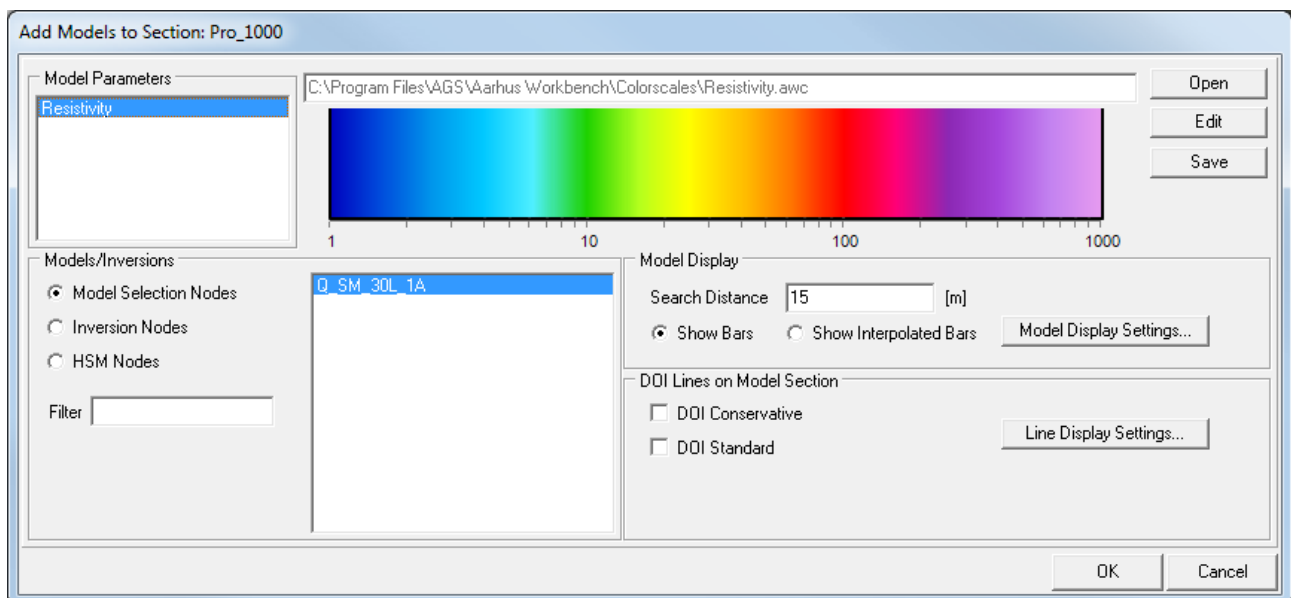

Figure 8.1: Adding Models. Use the F1 wiki help to read more about the setup.
- Here we can add models to the section (see figure 8.1). It can be done directly from inversion nodes or from the earlier made model selection. This include inversions and model selections made from entirely different data types. Use the resistivity.avc color scale and a fitting search radius. The search distance has to be big enough to cover the distance from your drawn profile to the sounding positions that you want to include, but also not so big that you get positions from more distant lines. Use the Show Bars option.